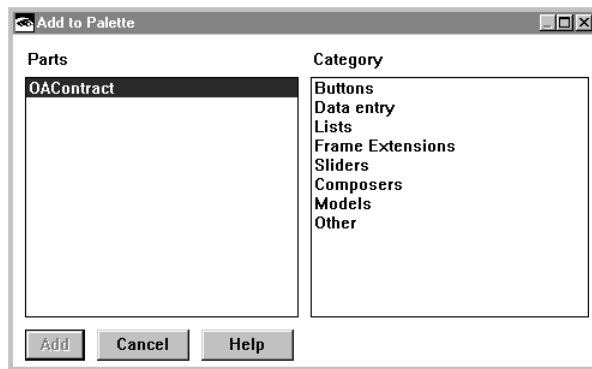

Figure 119. Add to Palette Window
4. Select **Part→Add to palette**. Visual Builder displays the Add to Palette window, as shown in Figure 119.